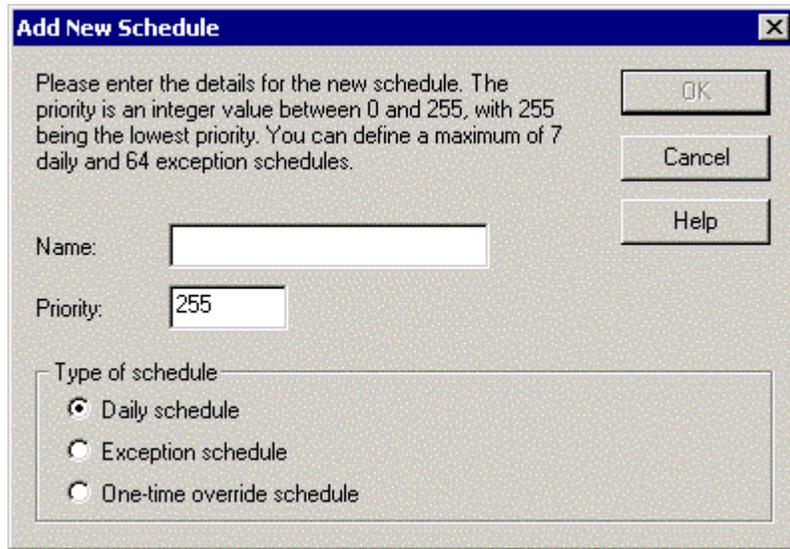

Figure 5.22 Add New Schedule Dialog
3. Verify that the correct Scheduler functional block is selected in the **Schedulers** folder in the **Functional Blocks** list, and then click **Add**. The **New Schedule** dialog opens as shown in the Figure 5.22.